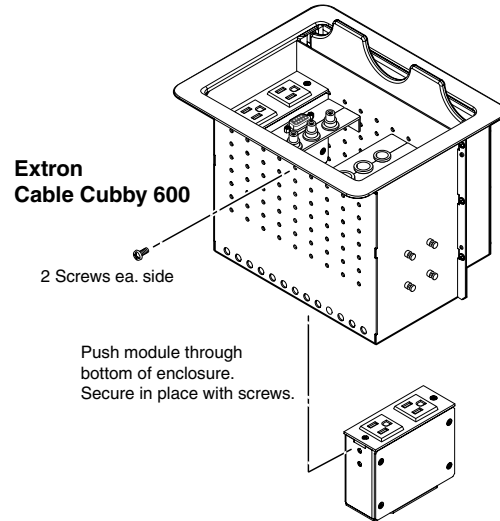

Figure 3-7 — Installing the power module
- 4 From the underside of the Cable Cubby, gently push the additional power module into the desired position at the desired elevation. Secure the power module into position with the included four Phillips head screws (figure 3-7).